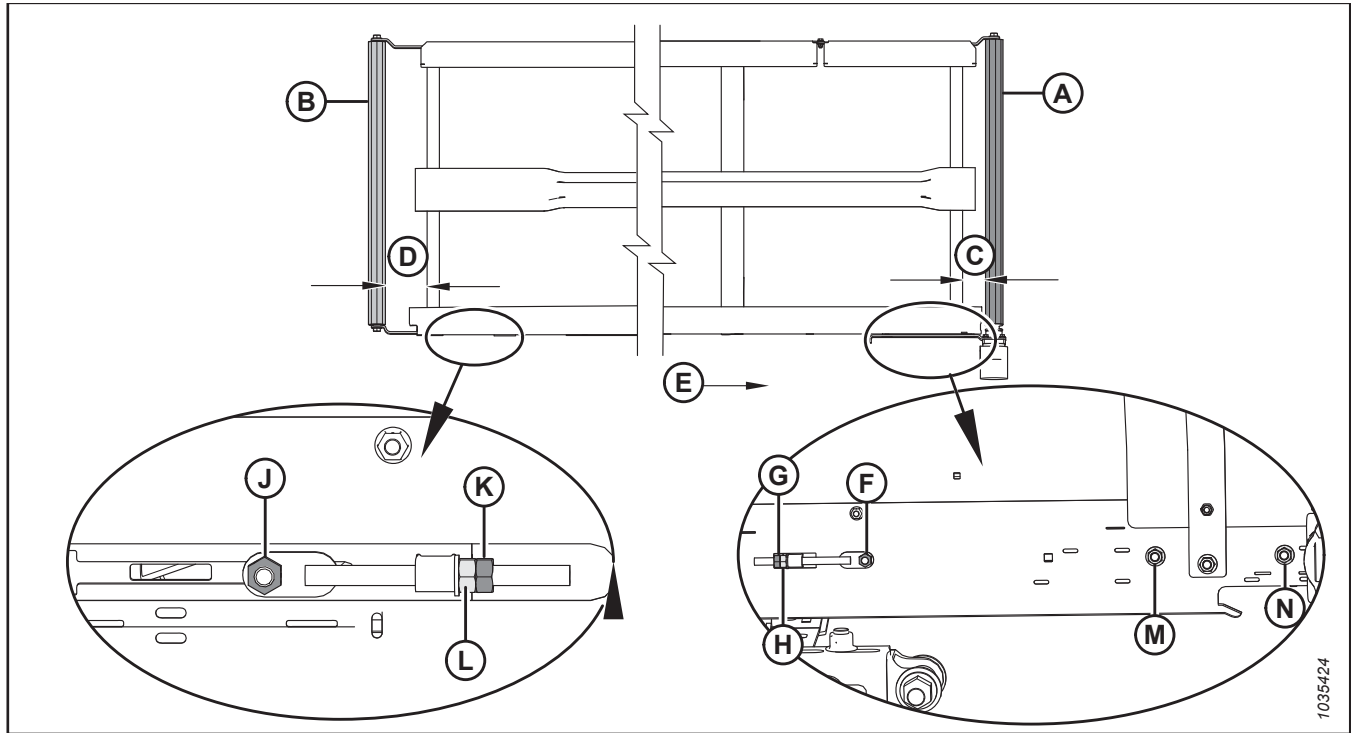

Figure 4.246: Draper Tracking Adjustments – Left Draper
2. Adjust drive roller (A) to change **C** (refer to Table 4.2, page 639 and Figure 4.246, page 639) as follows:
- a. Loosen nuts (F), (M), and (N), and jam nut (G).
- b. Turn adjuster nut (H).
- c. Tighten nuts (F), (M), and (N), and jam nut (G).
3. Adjust idler roller (B) to change **D** (refer to Table 4.2, page 639 and Figure 4.246, page 639) as follows:
- a. Loosen nut (J) and jam nut (K).
- b. Turn adjuster nut (L).